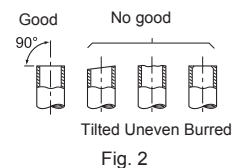

Fig. 2
- If the drain hose provided with the indoor unit is too short, connect it with drain hose (1) that should be provided at your site. (Fig. 2)